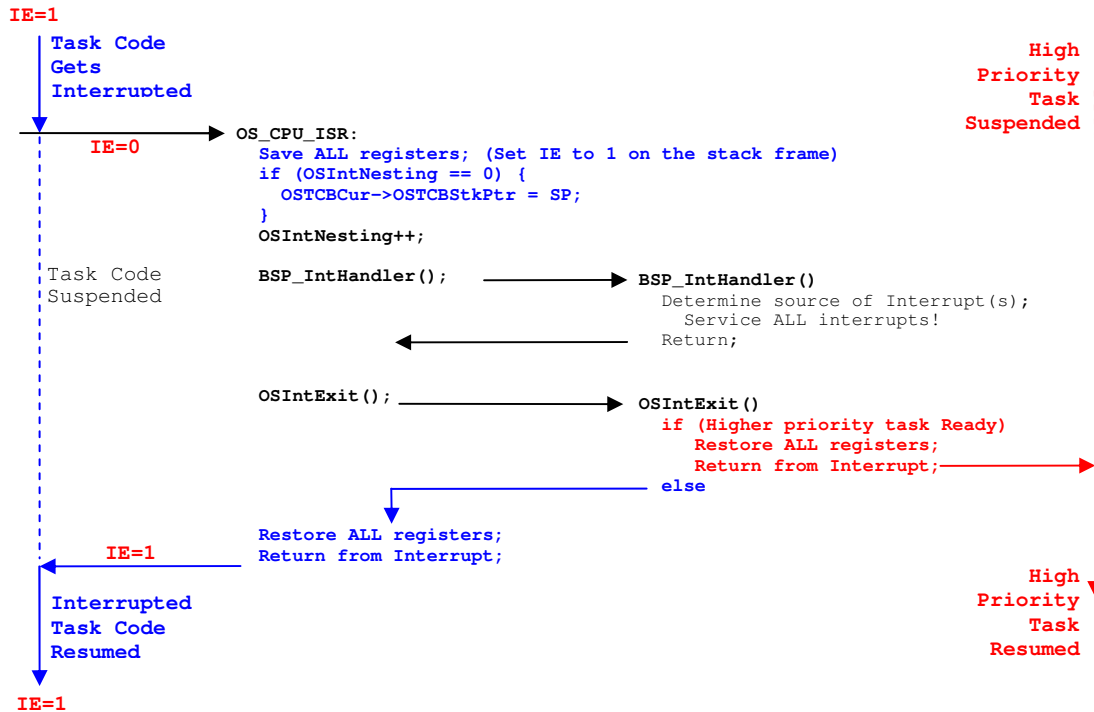

Figure 4-3, Servicing Interrupts with OS_CPU_ISR()
- L4-6(1) All of the CPU registers are saved onto the interrupted task's stack. `OS_CPU_ISR()` saves registers in a manner that creates a stack frame identical to that made by `OSTaskStkInit()` in `os_cpu_c.c`. Note that before saving the MSR onto the interrupted task's stack, we set the IE bit of the MSR value that we will save on the stack. When the interrupted task eventually resumes, interrupts will be enabled.
- L4-6(2)-(3) We then check to see if this is the first nested ISR by comparing `OSIntNesting` to zero. If this is the first nested ISR then we need to save the task's stack pointer onto the task control block (TCB) of the interrupted task. It's in fact quite unlikely that interrupts will be nested on the MicroBlaze because of the way we need to determine the interrupt source (i.e. by polling each interrupting device). It would be acceptable to simply save the stack pointer of the interrupted task into its TCB all the time. However, we felt more comfortable doing this the **normal μC/OS-II** way. It is important to save the SP into the TCB because (as we will see shortly), we may not actually return to the interrupted task, but instead context switch to a more important task when `OSIntExit()` executes.
- L4-6(4) We then increment the interrupt nesting counter. `OSIntNesting` needs to be incremented by the ISR because `OSIntExit()` checks the value of this counter to determine whether it will return to task level code or the next nested ISR. As we mentioned above, it's unlikely that ISRs will be nested, so `OSIntExit()` should always return to a task.
- L4-6(5) We then call a C-level interrupt handler called `BSP_IntHandler()`. This function should be located in `bsp.c`. The version of `BSP_IntHandler()` included with this document is described further in section 5.02.
- L4-6(6) When we come back from servicing all the interrupting devices, we call the **μC/OS-II** interrupt level scheduler, `OSIntExit()`. `OSIntExit()` decrements the interrupt nesting counter and if this counter reaches zero (and it should), `OSIntExit()` determines whether a new, more important task has been made ready to run by one or more interrupts. If so, `OSIntExit()` will NOT return to the interrupted task but instead context switch to the new, more important task.
L4-6(7)-(8) If the interrupted task is still the most important task after servicing the interrupt, then OSIntExit() returns, resulting in a return to that task (blue path in Figure 4-3). If a more important task has been made ready to run by one or more interrupting devices, then OSIntExit() resumes the higher priority task (red path in Figure 4-3).